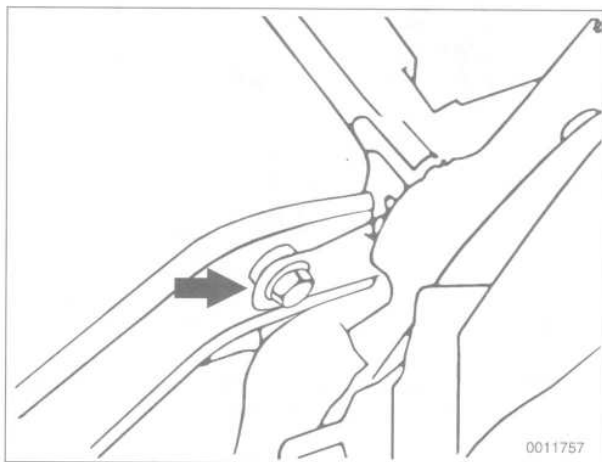

Fig. 20. Backrest lower mounting bolt (arrow). Left backrest shown.
3. Remove bolts from lower outside corners of left and/or right backrest. See Fig. 20.